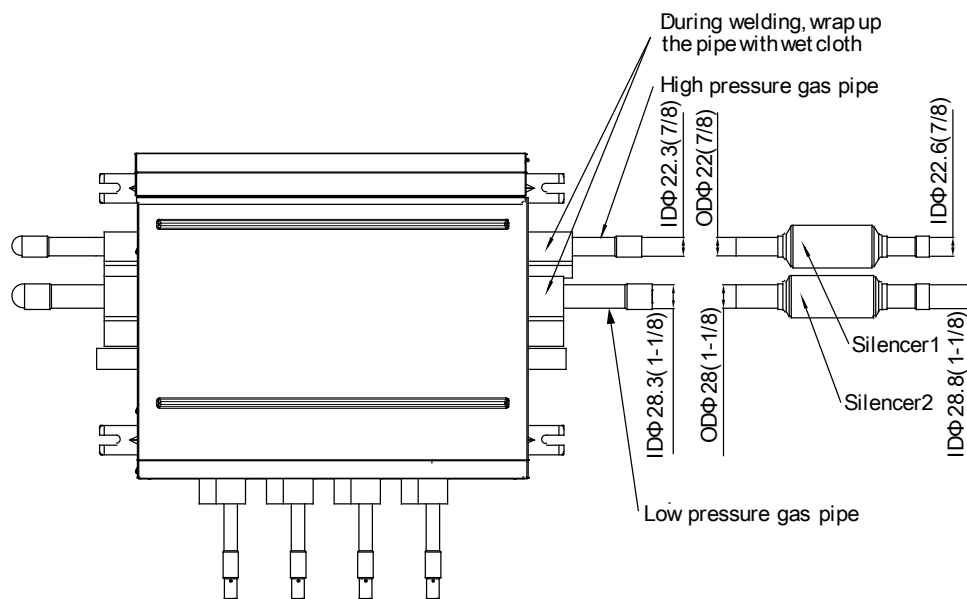

Fig.4.17
**NOTICE** During welding, wrap up the pipe with wet cloth (as shown in the Fig.4.17).
(2) Installation instruction for silencer while the left side of converter is connected to outdoor unit;